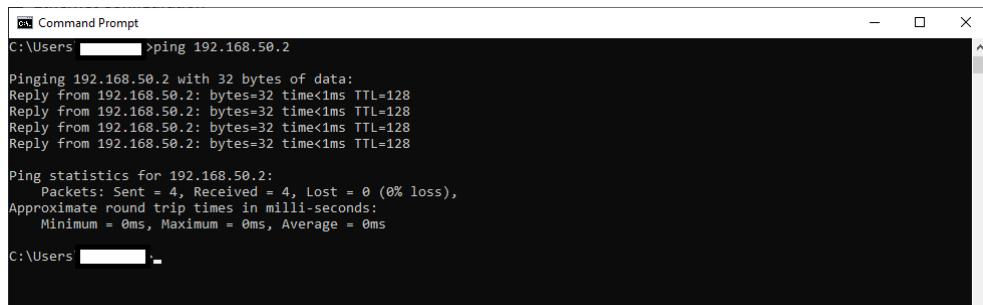

Fig. 3.19: Command prompt window with the command for testing the communication at the selected IP address.
5. The user can check that the connection is established by trying to ping the board via the Command Prompt (see Fig. 3.19) and checking the displayed message.